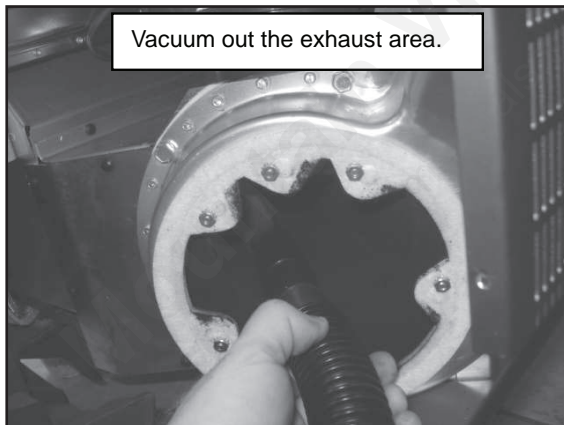

Figure 18.2
- a Vacuum out the exhaust area. **Figure 18.2.** You may need to replace the gasket at this time also. See Parts List for part number.